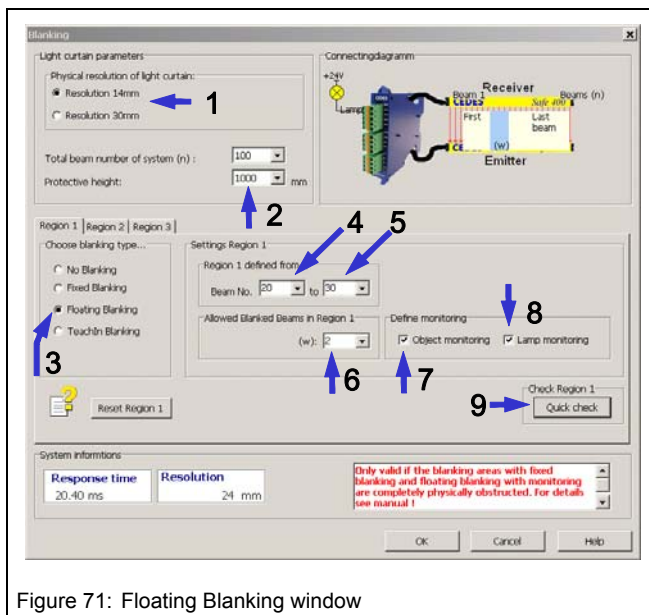

Figure 71: Floating Blanking window
In the case of "Floating Blanking", the area in which the object is allowed to move must first be defined (Figure 71 – 4 and 5). Subsequently the number of interrupted beams for "Floating Blanking" can then be appointed (6). Finally, the user must specify whether this application operates with object monitoring or without object monitoring (7). End the blanking configuration for this region with the Quick Check button. More information about floating blanking describes chapter 7.1.2.